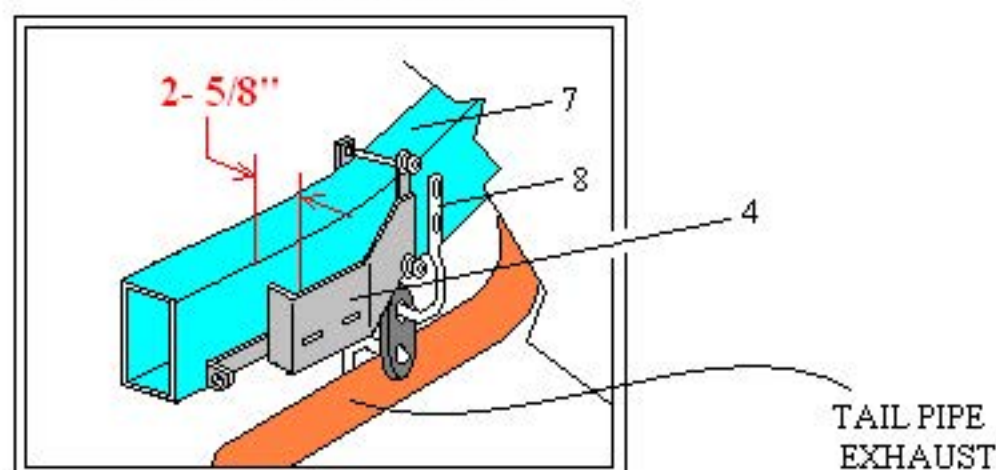

Fig. 4
- 6- Refer to page 4 Fig. 4 and Fig. 5 loosen nut (2) on bumper (1) as shown in Fig. 5 then adjust the Frame Extension plate (4) either closer or further from the vehicle frame (7) so that an approximate 2-5/8" spacing is provided between the Frame (7) of the vehicle and the Frame Extension plate (4) along points "A" to "B" as shown in Fig 5. As illustrated on Fig. 4 bumper (1) and components have been deleted from image for clarity. Once the measurement has been confirmed completely tighten nut (2).